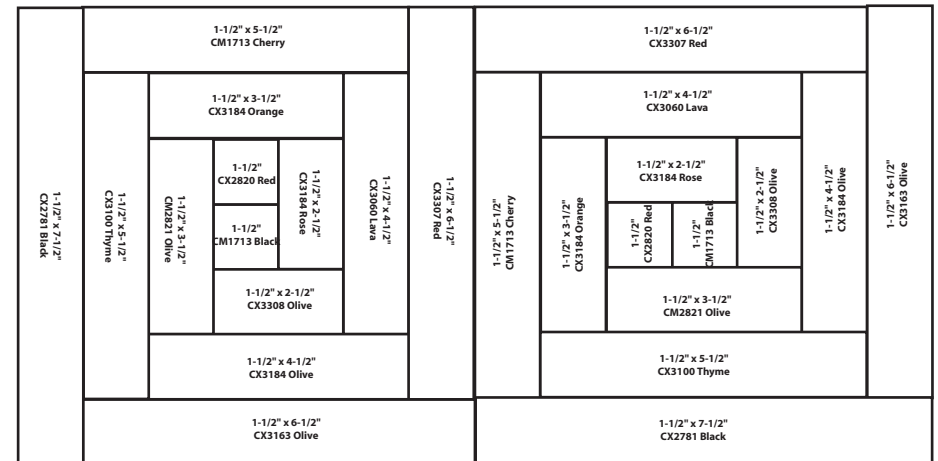

Figure 1
- 17) Sew two log cabin blocks together as shown in figure 1 to make one block pair. Repeat with the remaining blocks to make six block pairs total